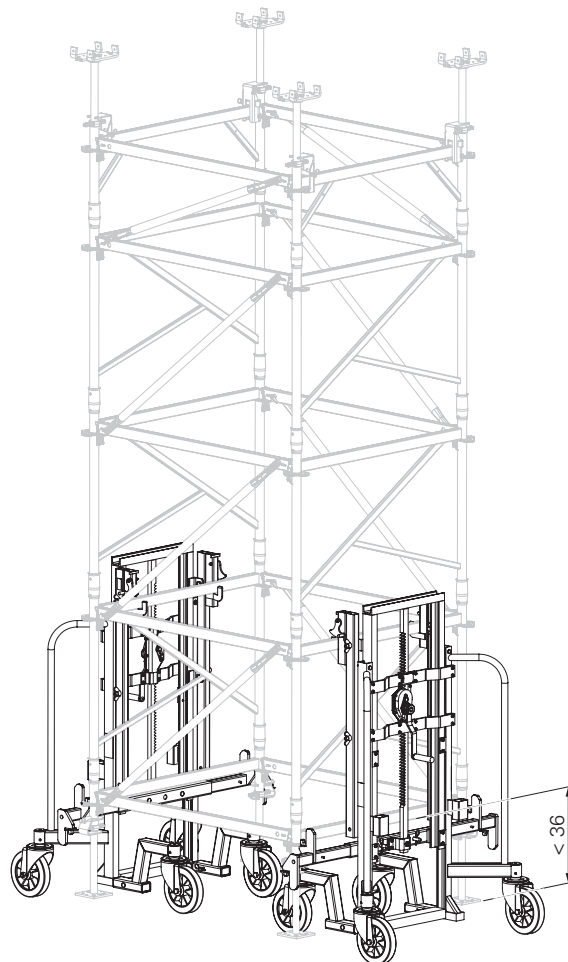

Fig. A2.03
3. Pick up shoring tower by means of the holding device of the trolley with winch unit. (Fig. A2.03)